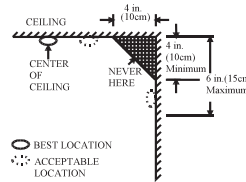

Figure 4:
- Install smoke detectors as close to the center of the ceiling as possible. If this is not practical, put the alarm on the ceiling, no closer than 4 inches (10 cm) from any wall or corner, as shown in Figure 4.
- If ceiling mounting is not possible and wall mounting is permitted by your local and state codes, put wall-mounted detectors between 4 and 6 inches (10 ~ 15 cm) from the ceiling, also see Figure 4.
- Dead air spaces are often at the top of a peaked roof, or in the corners between ceilings and walls. Dead air may prevent smoke from reaching an alarm. See Figures 4 and 5 for recommended mounting locations.